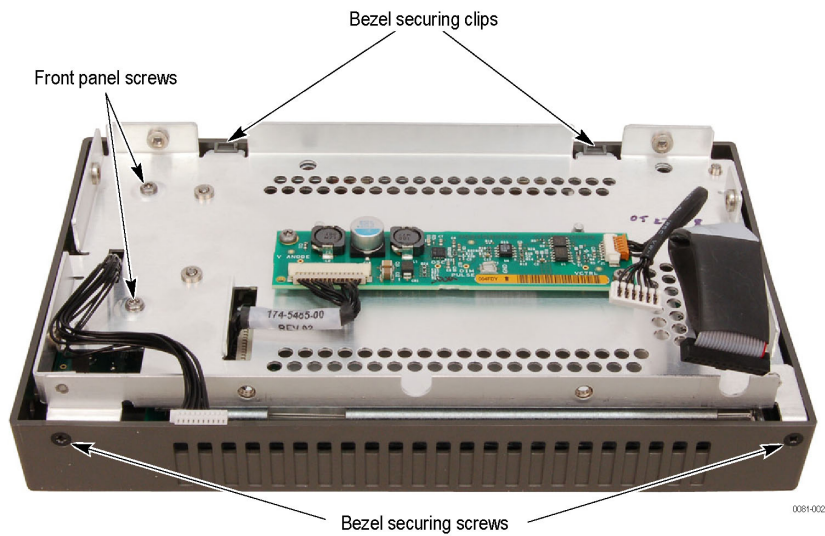

Figure 4: Front panel disassembly
4. Remove the two T10 screws securing the bezel to the Front Panel board. (See Figure 4 on page 31.) When reinstalling, torque these screws to 8 in/lb.